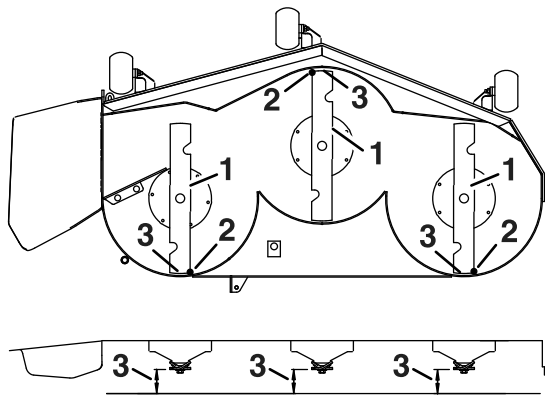

Figure 72
4. Carefully rotate the blades so they are facing front to rear (Figure 72).
5. Measure from the tip of the front blade to the flat surface and the tip of the rear blade to the flat surface (Figure 72).